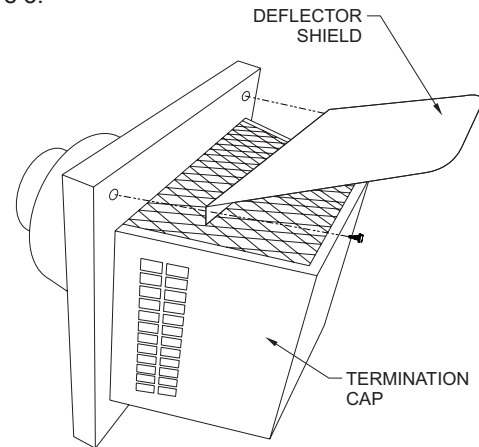

Figure 3
10. Secure the termination cap to the house exterior using four 1/8 x 3" long screws. Be sure to install the Deflector Shield with the two screws at the top of the termination base. See Figure 3.